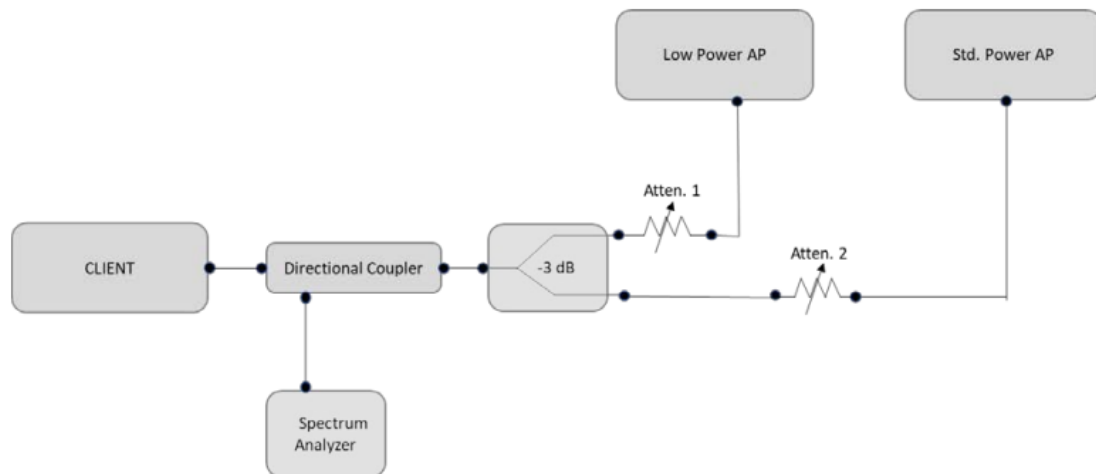

Figure 6. Test setup for conducted testing
1. Connect equipment as shown in Figure 6 below.